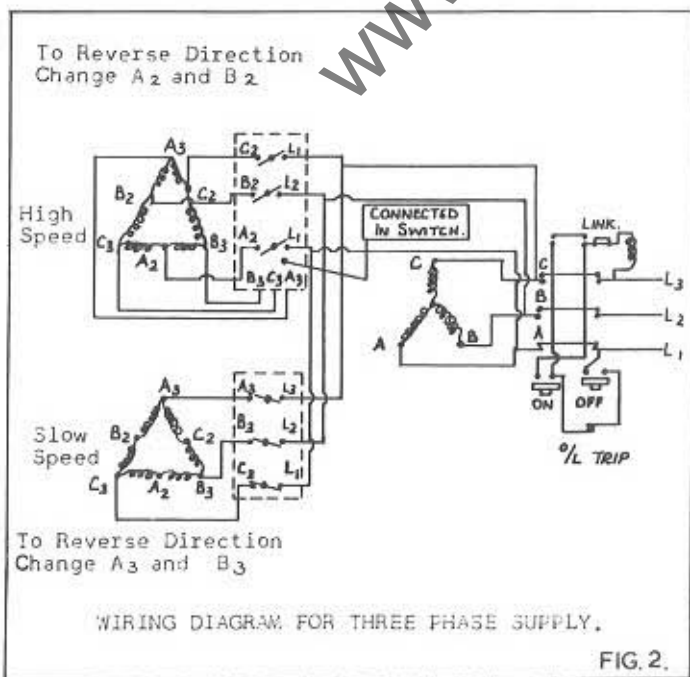

FIG. 2.
4. Connect the line leads to the appropriate terminals. See Fig. 2 for three phase supply.